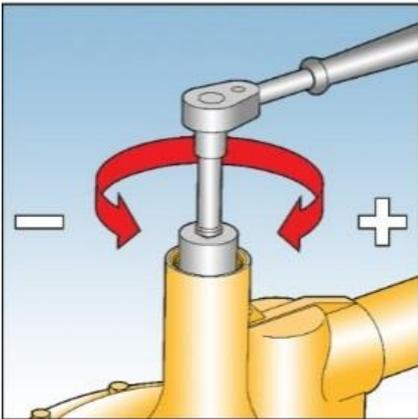

Fig. 11
3. Fully unscrew and remove the spring holder, See Fig. 11.
5. Screw spring holder back in place, ensuring that castellated spigot is uppermost in chimney. See Fig. 11.